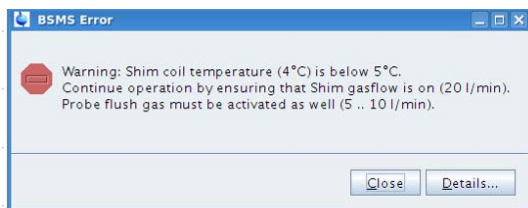

Figure 5.17 BSMS error message if the Shim coil temperature drops below 278 K.
7. Check the Shim coil temperature during operation (less critical, Figure 5.17).